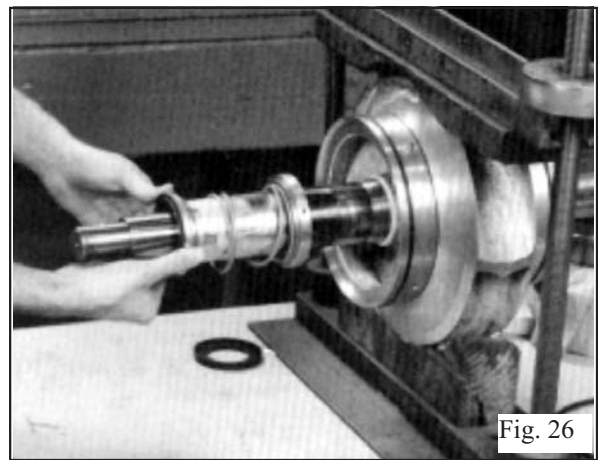

Fig. 26
9. Apply fine coat of silicon grease or equivalent to shaft sleeve, and slide seal head assembly (3-400-0) over sleeve. (See Fig. 26) If seal is a John Crane Type 8, set seal to approximate dimension shown in Fig. 28 and tighten set screws. Next, install O-rings (3-914-2) onto glands (3-014-2) and install glands on the shaft.